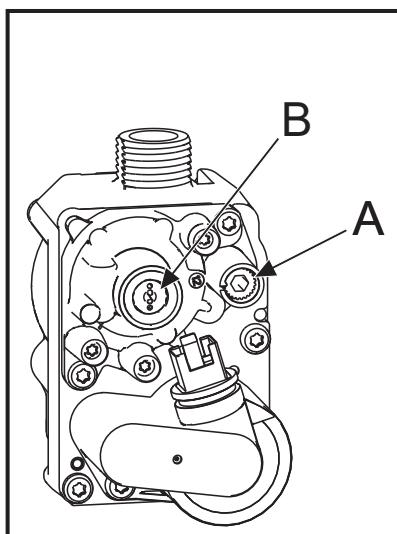

fig. 29 - Gas valve
3. Now adjust the **Throttle setting** (fig. 29 - screw A) until the CO2 is at the correct **SETTING LEVEL** (see table 8), confirm that the CO/CO2 ratio is within limits (clockwise to increase gas).
2. Now adjust the **offset pressure setting** (fig. 29 - screw B) until the CO2 is at the correct **SETTING LEVEL** (see table 9), confirm that the CO/CO2 ratio is within limits (clockwise to increase gas).